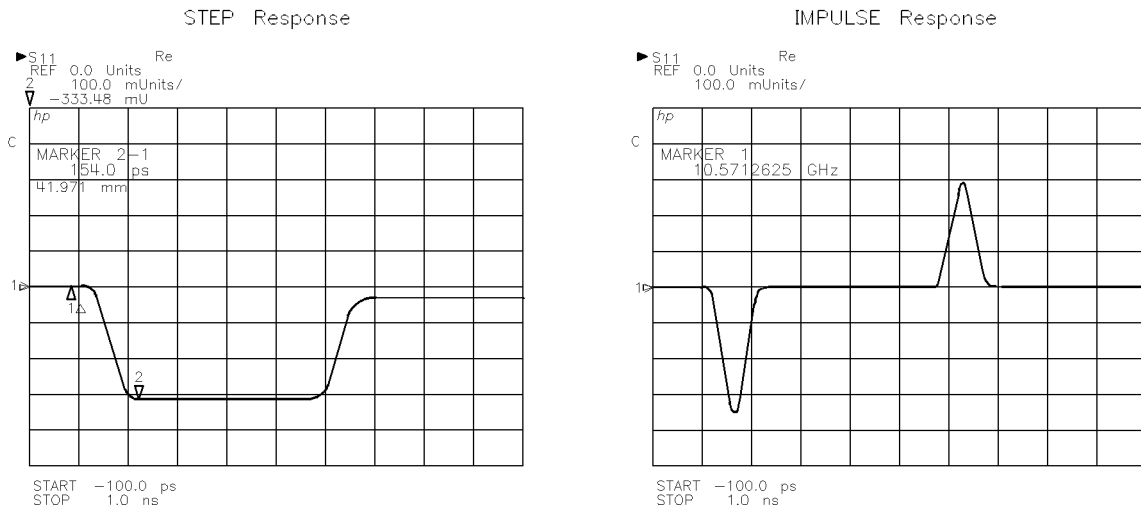

Figure 11-6. Time Low Pass Step Response of a 25 Ω Airline and Fixed Load
7. Press **AUTO** to view the STEP response (example in Figure 11-6).
Masking occurs when an Impulse or Step response of one discontinuity affects (or hides) the response of subsequent discontinuities in the circuit. This occurs because the energy reflected from (or absorbed in) the first discontinuity never reaches the second. In the 25Ω airline example (Figure 11-6), the Time Low Pass step response shows a -0.33 reflection coefficient at the first discontinuity, which is the correct value for an impedance of 25Ω . However, at the end of the 25Ω section, the response does not return to zero reflection coefficient, which would be expected for a 50Ω impedance. The reason is that the step incident on the second response is of less than unity amplitude because of the energy reflected in the first mismatch.